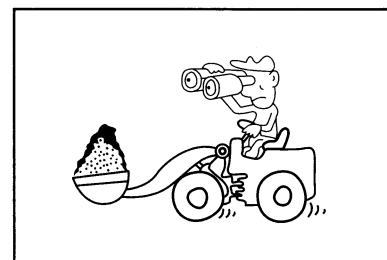

Figure1-32
- Investigate the working place in advance, watch the road condition, keep vigilance against to obstacles, sludge, snow and cave. (Figure 1-32)